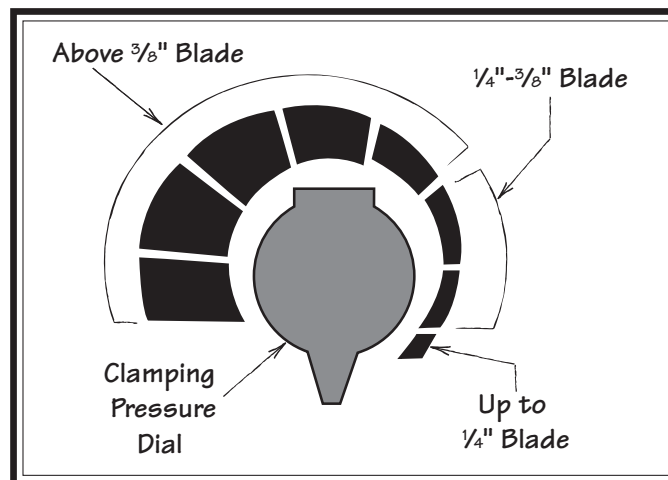

Figure 32. Blade clamping settings.
- Use the illustration in **Figure 32** and set the correct clamping pressure setting for width of the blade.